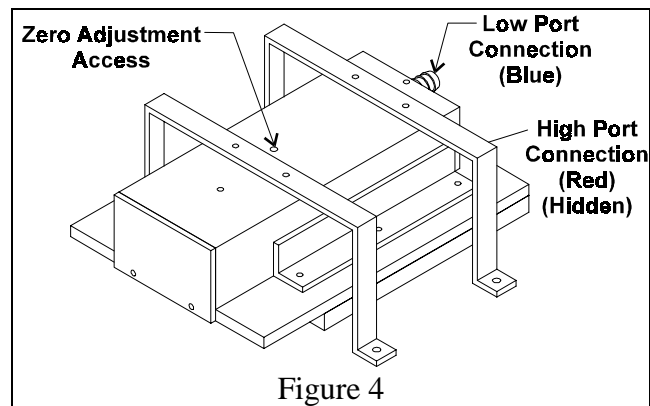

Figure 4
8. The pressure ports are color coded to the tubing supplied in any of the TBK kits. Push the appropriate color tube onto the fitting marked with the same color. The port marked blue is the low (static) pressure connection, and the port marked red is the high (total) pressure connection. Refer to Figure 4.
- (b) Remove the zero adjust plug to gain access to the zero adjust pot. Refer to Figure 4. Clockwise rotation of the pot increases the output.